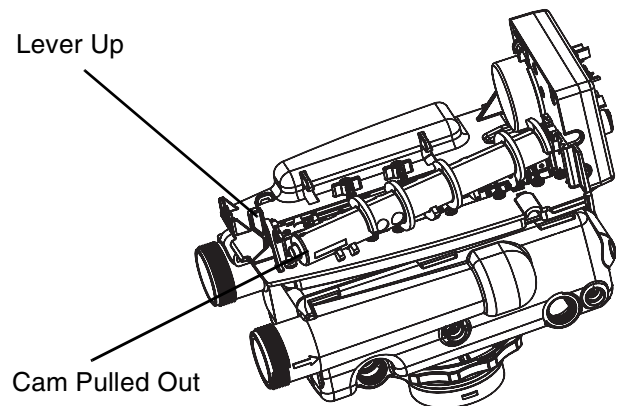

Figure 12
4. Rotate the locking lever to point up (Figure 12).
4. Remove the injector screen and injector cap (Figure 12) with a screwdriver.